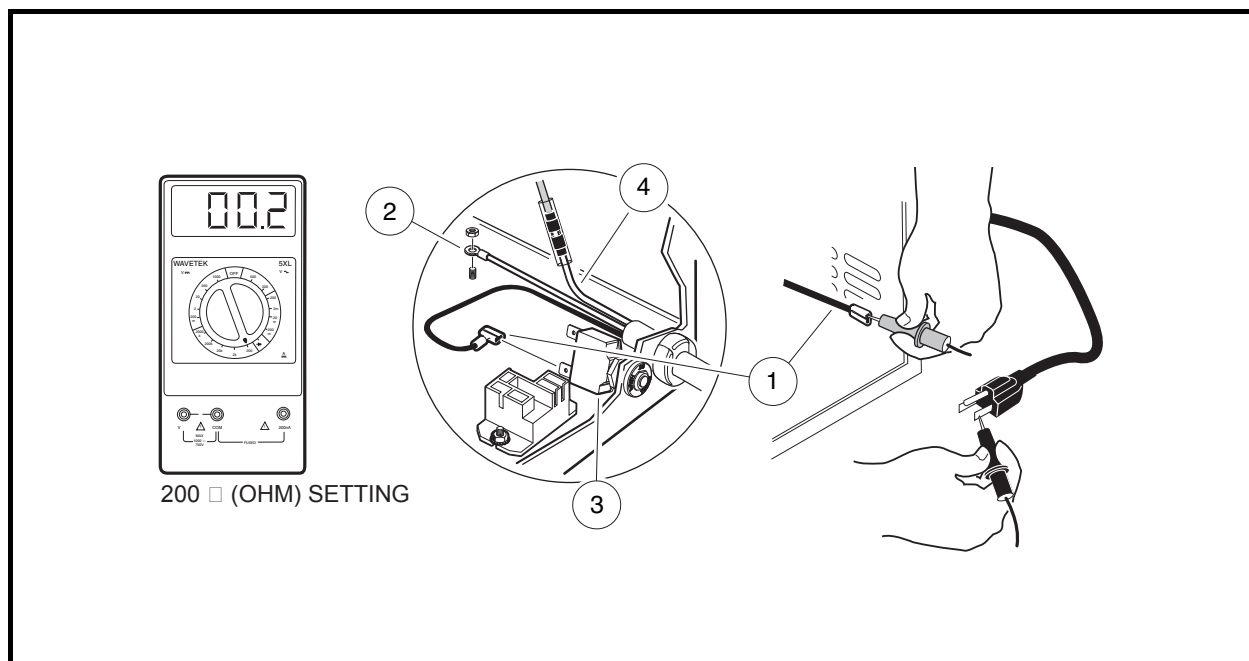

Figure 8-15 AC Cord and Plug Continuity Test
3. Disconnect the green wire (2) from charger case and position it so it does not touch any metal part of the charger (**Figure 8-15, Page 8-20**).
4. Disconnect the black wire (1) of AC cord from charger AC circuit breaker (3).
5. Disconnect the AC cord white wire (4) from the primary coil tan wire.
6. Using a multimeter set for 200 ohms, place the red (+) probe on the terminal at the end of the black wire (1). Test for continuity on each of the flat blades and then on the round pin of the AC plug. The tester should indicate continuity on one flat blade only. If any other reading is obtained, the AC cord and plug must be replaced.
7. Place the red (+) probe on the end of the green wire (2) and with the black probe check for continuity on both flat blades and on the round pin of the AC plug (**Figure 8-15, Page 8-20**). The tester should indicate continuity on only the round pin. If any other reading is obtained, the AC cord and plug must be replaced.
8. Place the red (+) probe on the white wire (4) and check for continuity on both flat blades and on the ground pin of the AC plug. The tester should indicate continuity on only one flat blade. If any other reading is obtained, the AC cord and plug must be replaced.